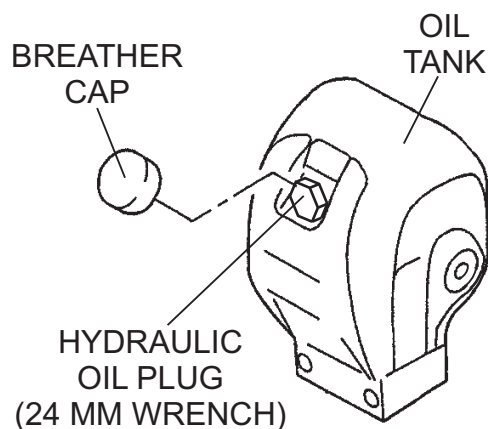

Figure 26. Hydraulic Oil Tank
1. Remove the breather cap and oil plug (Figure 26) from the hydraulic oil tank using a 24mm hex socket.